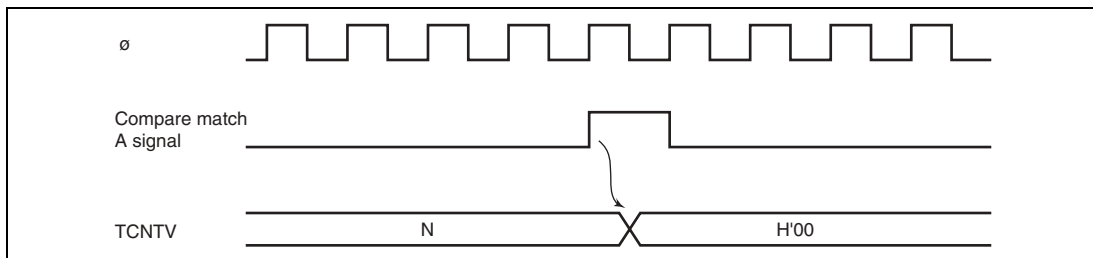

Figure 10.7 Clear Timing by Compare Match
5. When CCLR1 or CCLR0 in TCRV0 is 01 or 10, TCNTV can be cleared by the corresponding compare match. Figure 10.7 shows the timing.